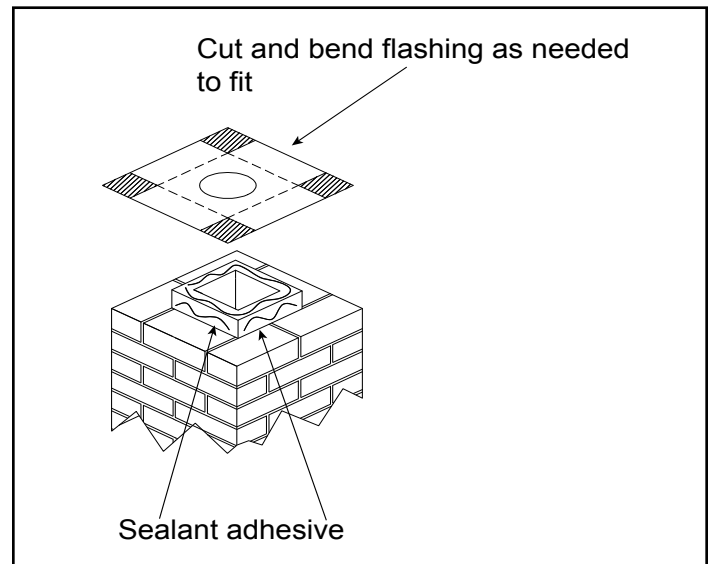

Figure 5.29
3. Secure the flashing to the top of the masonry chimney using a bead of non-hardening sealant-adhesive. If the flashing is larger than the top of the chimney, cut and fold flashing as needed to fit chimney (Figure 5.29).